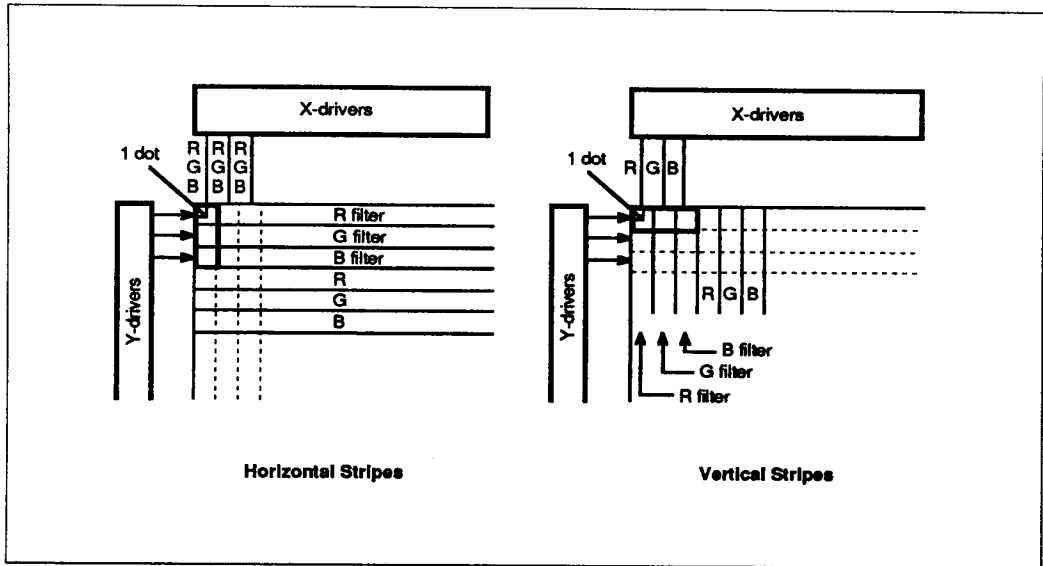

Figure 6 Stripe Modes in 8-Color Display
8-Color Display (Modes 9 to 16): The LVIC-II displays 8 colors through red (R), green (G), and blue (B) filters placed on liquid-crystal cells. The eight colors are the same as those provided by a CRT display. As shown in figure 6, 8-color display has two stripe modes: horizontal stripe mode in which the LVIC-II arranges RGB data horizontally for horizontal filters and vertical stripe mode in which it arranges RGB data vertically for vertical filters. Three cells express one dot in both modes.